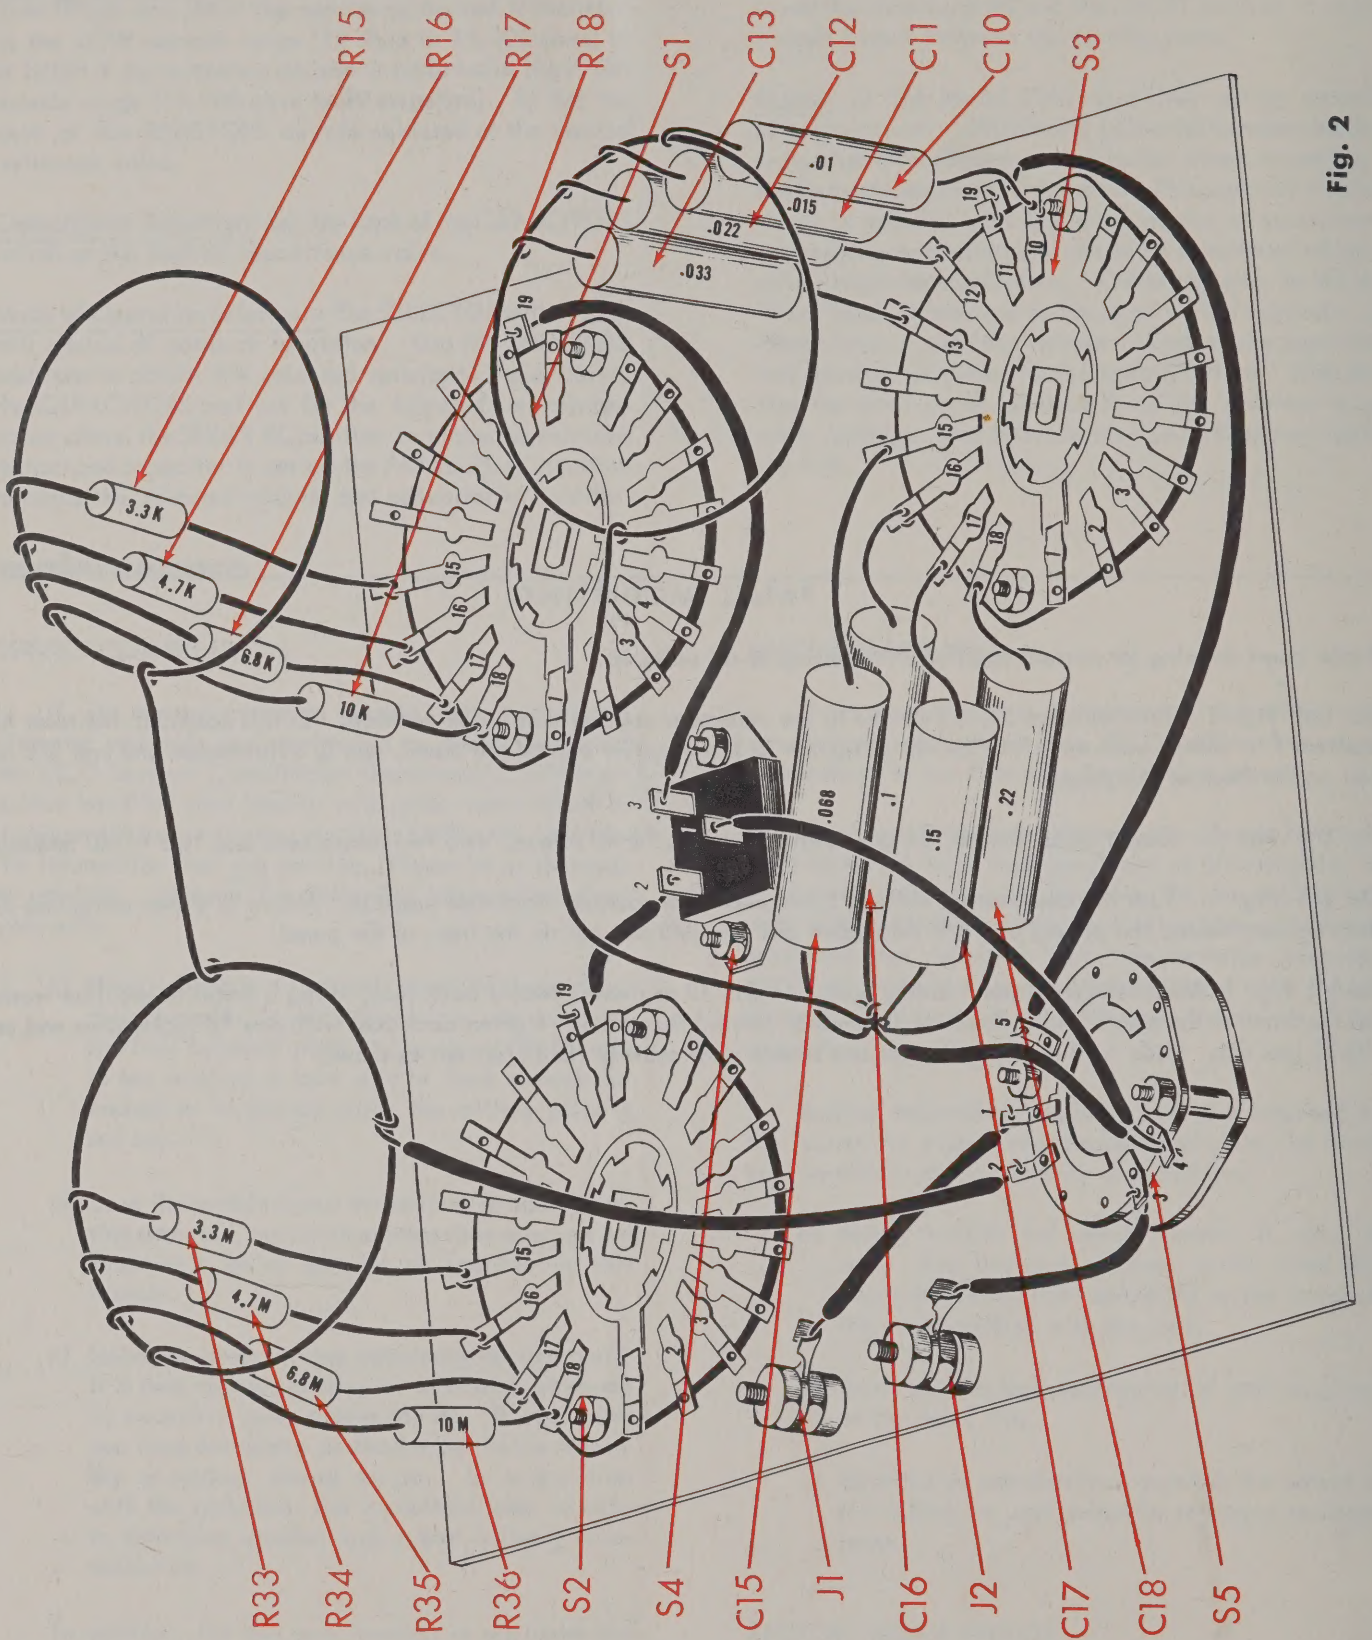

Fig. 2
1. ☒ Fig 2. Stretch the piece of heavy bare wire to eliminate any kinks. Cut three 7 1/4" lengths. Form each piece of wire into a ring of approximately 2" diameter. Overlap the extra lengths of wire and solder.
2. ☒ Fig. 2. Cut both leads on all resistors to 1/2".
3. ☒ Fig. 2. Low value resistors (15Ω to 10KΩ) are mounting on switch S1. High value resistors (15KΩ to 10MΩ) are mounted on S2. Connect one end of the 10KΩ (brown, black, orange, silver) resistor, R18, to S1-18 (S). Leave approximately 1/4" of wire between the resistor body and the switch contact.
4. ☐ Fig. 2. Similar to the above, connect and solder the following resistors to the indicated contact on the switches.
19. () Fig. 2. Put knobs over all four shafts on the controls. The LOW resistor knob should face "15", the HIGH resistor knob should face "15", the CAPACITOR knob should face ".0001" and the SELECTOR knob should face "OPEN". Tighten all set screws. Your instrument is now complete and ready for use.